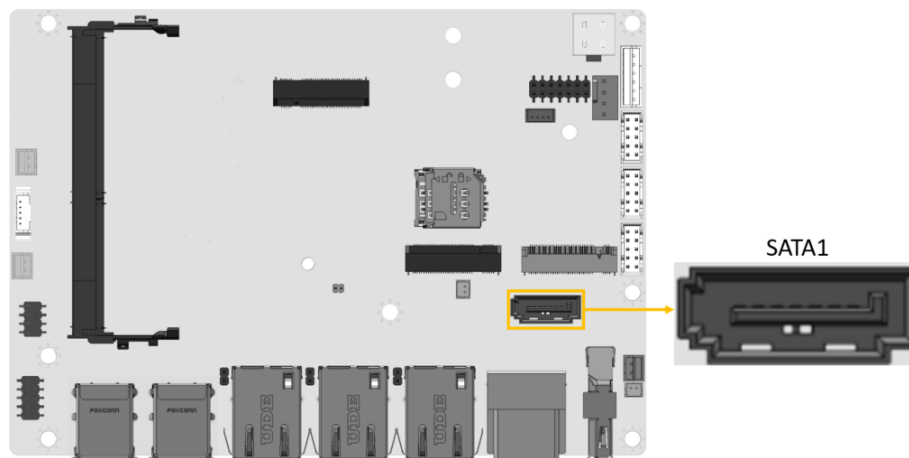

Figure 3-17: SATA 6Gb/s Drive Connectors Location
- CN Location:** See **Figure 3-17**